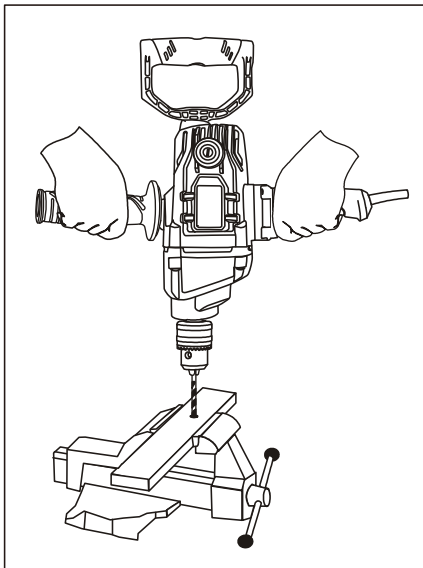
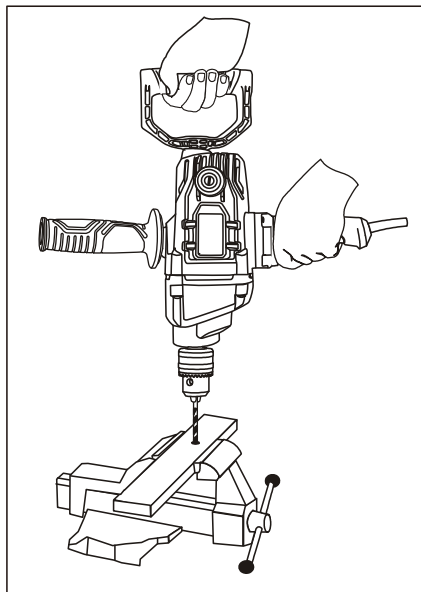

Fig. 8
Fig. 9
When drilling in smooth hard surfaces such as metal, use a center punch to mark the desired hole location. This will prevent the drill bit from slipping off center as the hole is started. The workpiece to be drilled should be secured in a vice or with clamps to keep it from turning as the drill bit rotates (Fig. 8).
2. Hold the drill firmly with both hands. Use your left hand to grasp the main handle and switch and your right hand to grasp the auxiliary handle (Fig. 8). If the auxiliary handle cannot be used due to inadequate space, use your right hand to grasp the swivelling "D" handle (Fig. 9).
2. Tap the hex key sharply with a mallet in a **CLOCKWISE** direction (Fig. 9). This will tighten the chuck on the spindle.